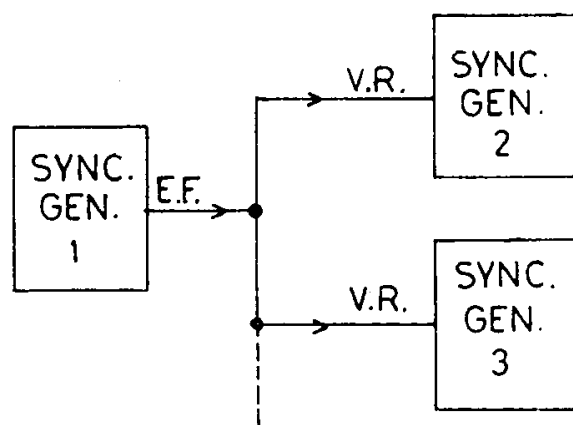

Fig. 4 Field Synchronisation using Vertical Reset
*Field Synchronisation* (Fig. 4) is achieved by driving the Vertical Reset inputs of the driven generators directly from the Even Field output of the first generator (the Line drive outputs should already be in phase). This resets the generators to the start of the first field ( $T = 0$ , start of broad pulses.)